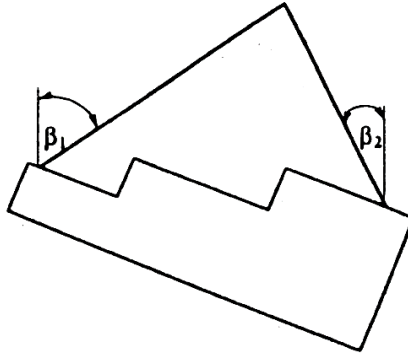

Figure 3: Example for unequal inclination angles β
- If different angles of inclination occur with 2-leg suspensions (Figure 3), only the working load limit of a single leg may be taken as a basis.